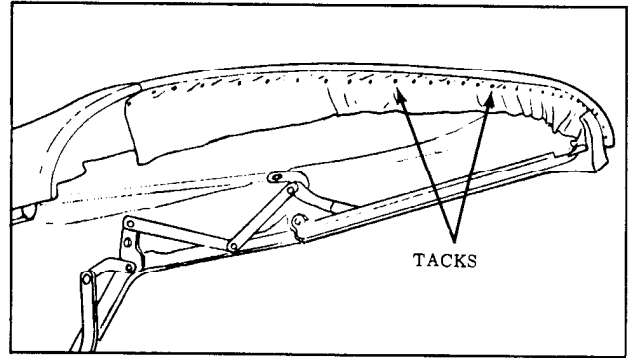

Fig. 15-107 Tacking Trim to Rail
50. Unlock top from windshield header and apply neoprene-type weatherstrip adhesive to tacking area of front roof rail. Pull top trim material slightly forward so that pencil marks are forward on front edge of front roof rail. Fasten top trim to cemented area and stay tack trim to rail. (Fig. 15-107)